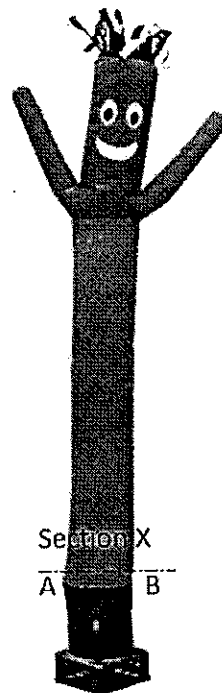

Figure 2
2. Figure 2 shows a tall inflatable tubular structure. The structure is made of a fabric and requires a longitudinal stress at the bottom of the structure at section X to be at least 1.0 MPa for it to be kept upright. Assume thin-walled cylindrical pressure vessels theory is applicable at section X and the total weight of the structure is equivalent to 30 kg acting longitudinally at section X. Points A and B are on the external surface of the structure at section X. The structure has an internal diameter of 800 mm with a thickness of 1 mm. Assume acceleration of gravity, $g = 9.81 \text{ m/s}^2$.
- (b) If the structure is modified resulting in an extra equivalent vertical offset load of 10 kg at 400 mm away from the axis of the tube (on the left hand side of Figure 2). What is the new minimum internal pressure required (provide answer in kPa with at least 2 decimal places)? (9 marks)